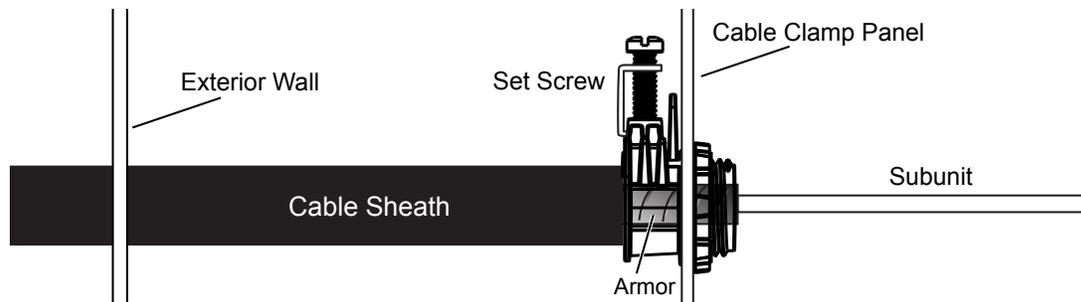

Figure 20
- Step 1:** Insert the sheathed fibers through the hole in the cabinet wall (Figure 20). The maximum outside diameter of the cable sheath, including heatshrink tubing if used, is 0.474 mm ($3\frac{1}{64}$ -in).